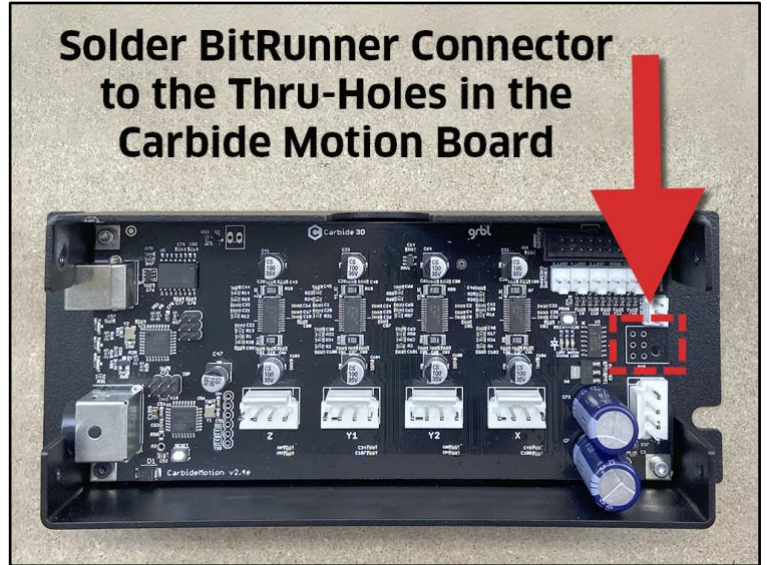

Figure 5
1. Solder the male 6-pin BitRunner connector to the board. Insert the connector's alignment peg and six (6) solder pins into the six available thru-holes on the right edge of the board. See *Figure 5*. The connector points away from the enclosure (toward the **FRONT** of the machine).
3. Use an SAE  $\frac{3}{32}$ -inch hex key and the four (4) existing socket head cap screws to secure the modified Carbide Motion board to the enclosure.
4. Use a 4mm hex key and two (2) M6x12mm button head cap screws to attach the enclosure to the Y1-rail with the USB and power ports at the **BACK** and the 6-pin BitRunner connector at the **FRONT**.
5. Reconnect the three (3) homing/proximity switch cables and four (4) stepper motor extension cables.